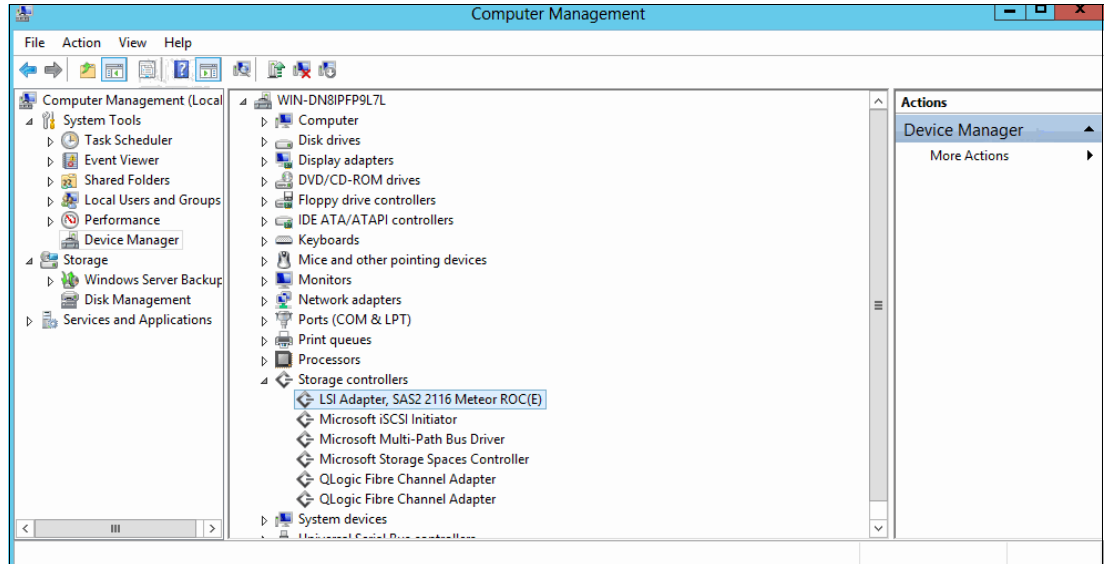

Figure 6-7 Selecting host HBA: Windows 2012
8. Select the storage controller used to connect to the external storage, as shown in Figure 6-7.